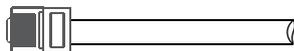

Figure 4.8-3 Remotely close the cable connection
Step 3-2 For Remote Shutdown. Run the cable through the steel plate , Then wire from pins 5 and 6. Table 4.5-1 describes the 6-pin port definition, Wiring is shown in Figure 4.8-3